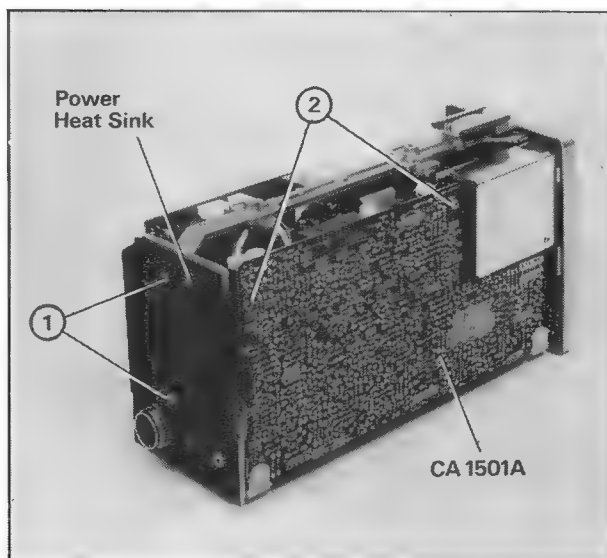

Fig 3.11 Power Heat Sink
The power heat sink, shown in Figure 3.11 is equipped with a power regulator, two power transistors, and a power switch for the focus regulator.
The power heat sink is secured to the body by the two screws **①** in Figure 3.11.